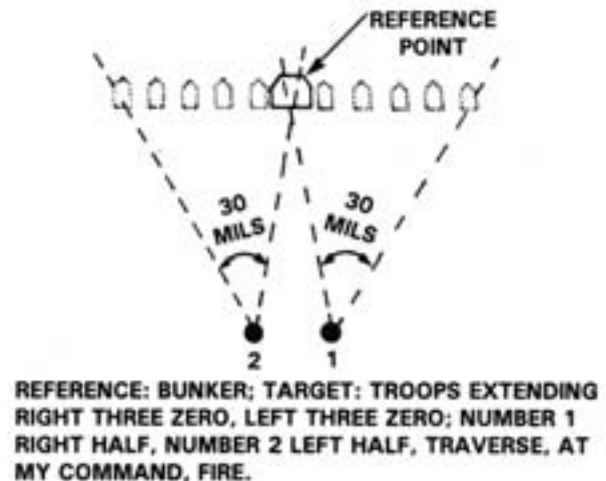

Figure 6-19. Sample Fire Command.
d. **Fire Commands.** Figure 6-19 is a sample fire command. Examples of fire commands used for area targets are: